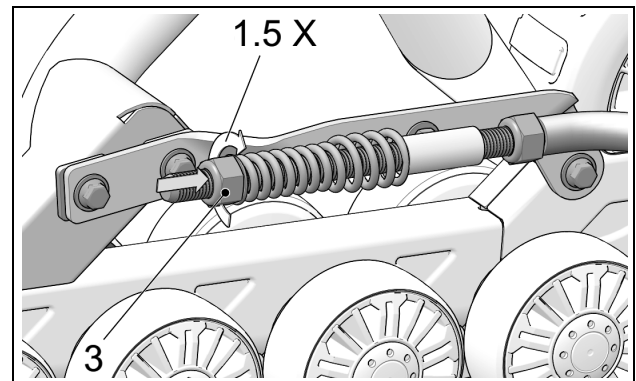

Figure 13
- Turn nut (3) until it comes in contact with spring, then compress spring by turning nut 1 1/2 turns. See Figure 13.